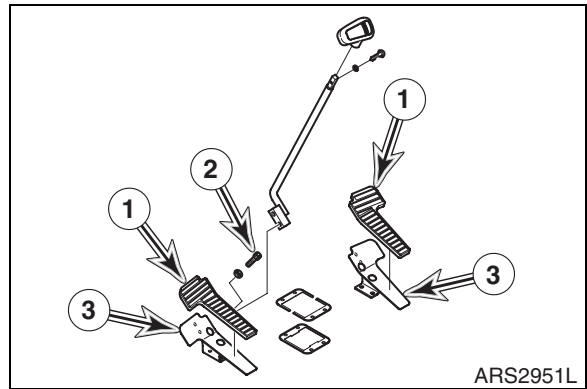

Figure 9
13. Remove rubber boots (1, Figure 9).
14. Remove four bolts and washers (2, Figure 9), pedal brackets (3) with levers.